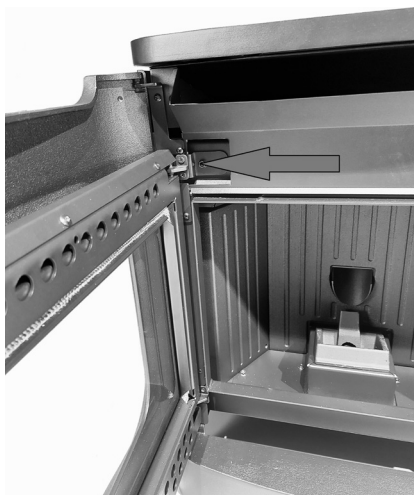

Fig. 17 - Door adjustment
- Loosen the two front screws in the upper hinge and, using the side screw (the one circled in the picture) adjust the door forward or backward (see **Fig. 17**).